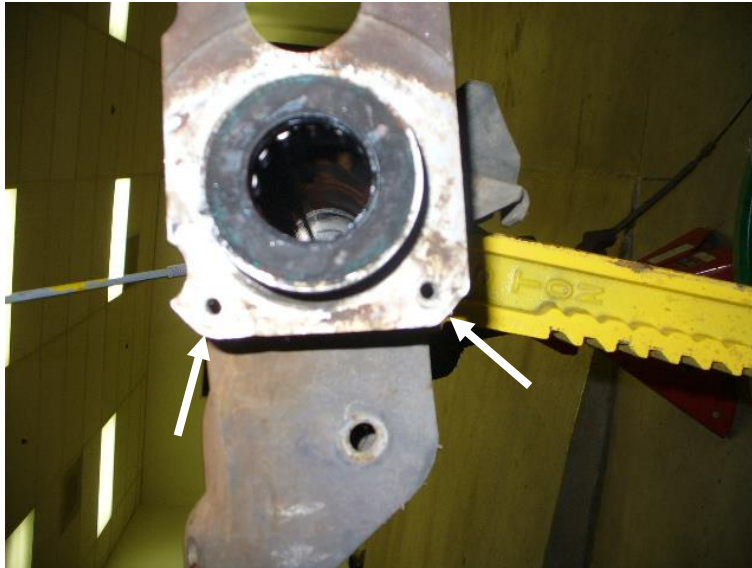

Figure 3: Drill these two holes to .375"
6. The two small bolt holes for the backing plate need to be drilled out to .375". See figure 3 for reference.